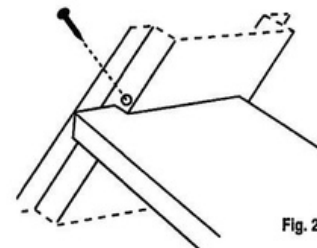

Fig. 2
STEP 5 SECURE STAIR TREAD (Fig. 2) by driving an 8d nail straight down into the tread through the hole Provided in the STEELWAY STAIR STRINGER.